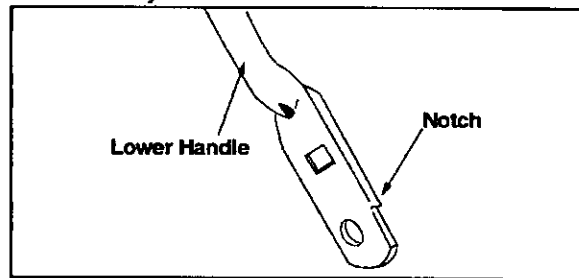

Figure 16
- Turn lower handle around so the notch on the bottom of the lower handle is facing forward. Reassemble, placing the bottom holes in the handle over the weld pins in the handle mounting bracket. See Figure 16.